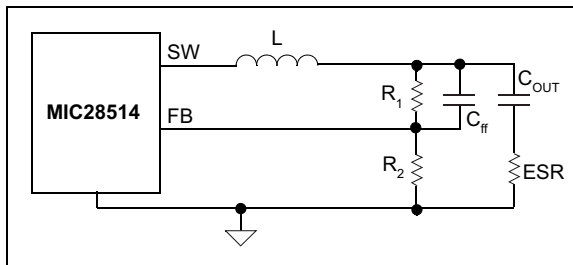

FIGURE 5-3: Inadequate Ripple at FB.
2. Inadequate ripple at the feedback voltage due to the small ESR of the output capacitors. In this situation, the output voltage ripple is fed into the FB pin through a Feed-Forward Capacitor, C_{FF} , as shown in Figure 5-3. The typical C_{FF} value is between 1 nF and 22 nF.